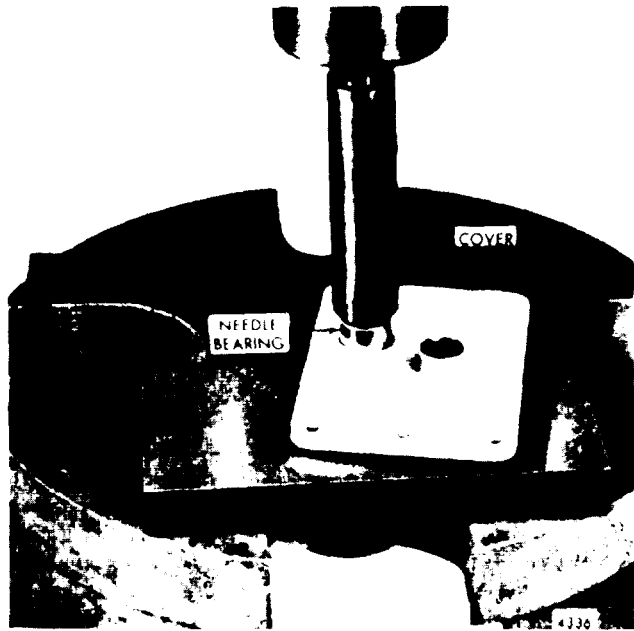

Figure 11C-70. Installing Needle Bearing in Cover
6. Place the torsion retraction spring over the cover hub with the hooked end up (see Figure 11C-61 on page 11C-36). Then place the stop lever on the shaft and tighten the clamping bolt.
1. Place the bearing washer over the short, finished end of the operating shaft (see Figure 11C-64 on page 11C-38). Start the bearing over the end of the shaft. Support the opposite end of the shaft on the bed of the press. Using a sleeve having the same diameter as the bearing inner race, press the bearing on the shaft tight against the washer.